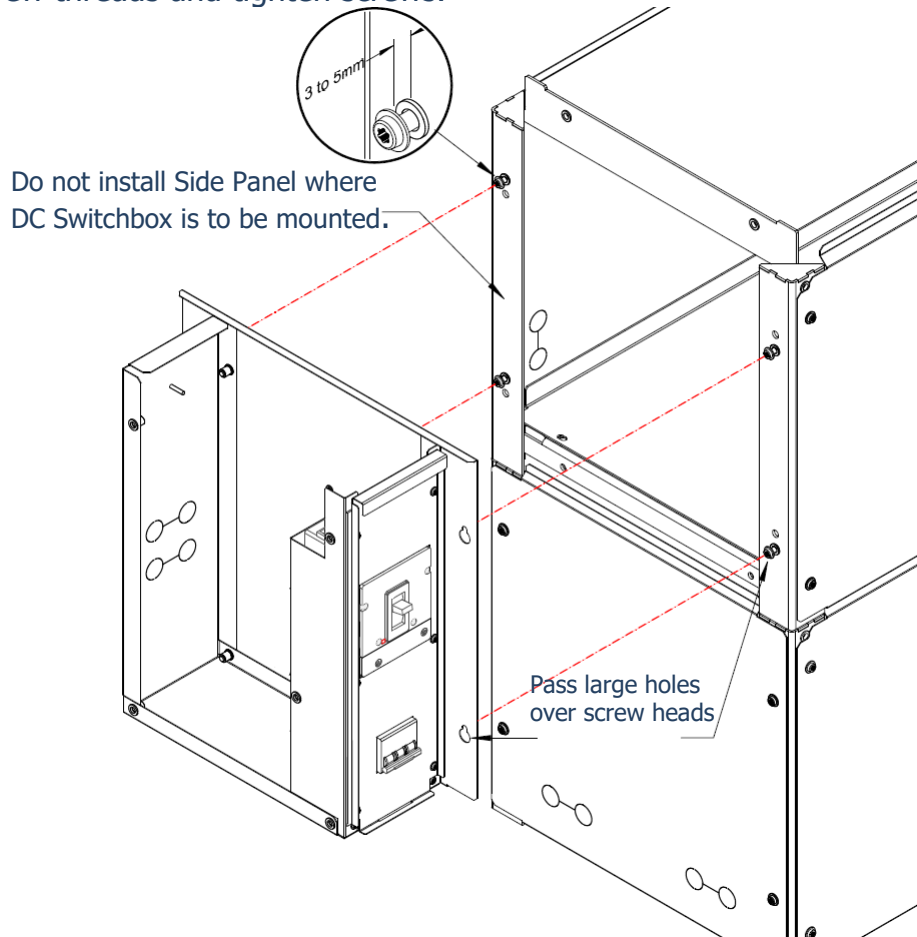

Figure 9
- Insert M6 x 16mm long screws (4 off) into the Battery Frame inserts leaving 3 to 5mm between the screw head and the frame insert. - Refer to enlarged view in Figure 9.